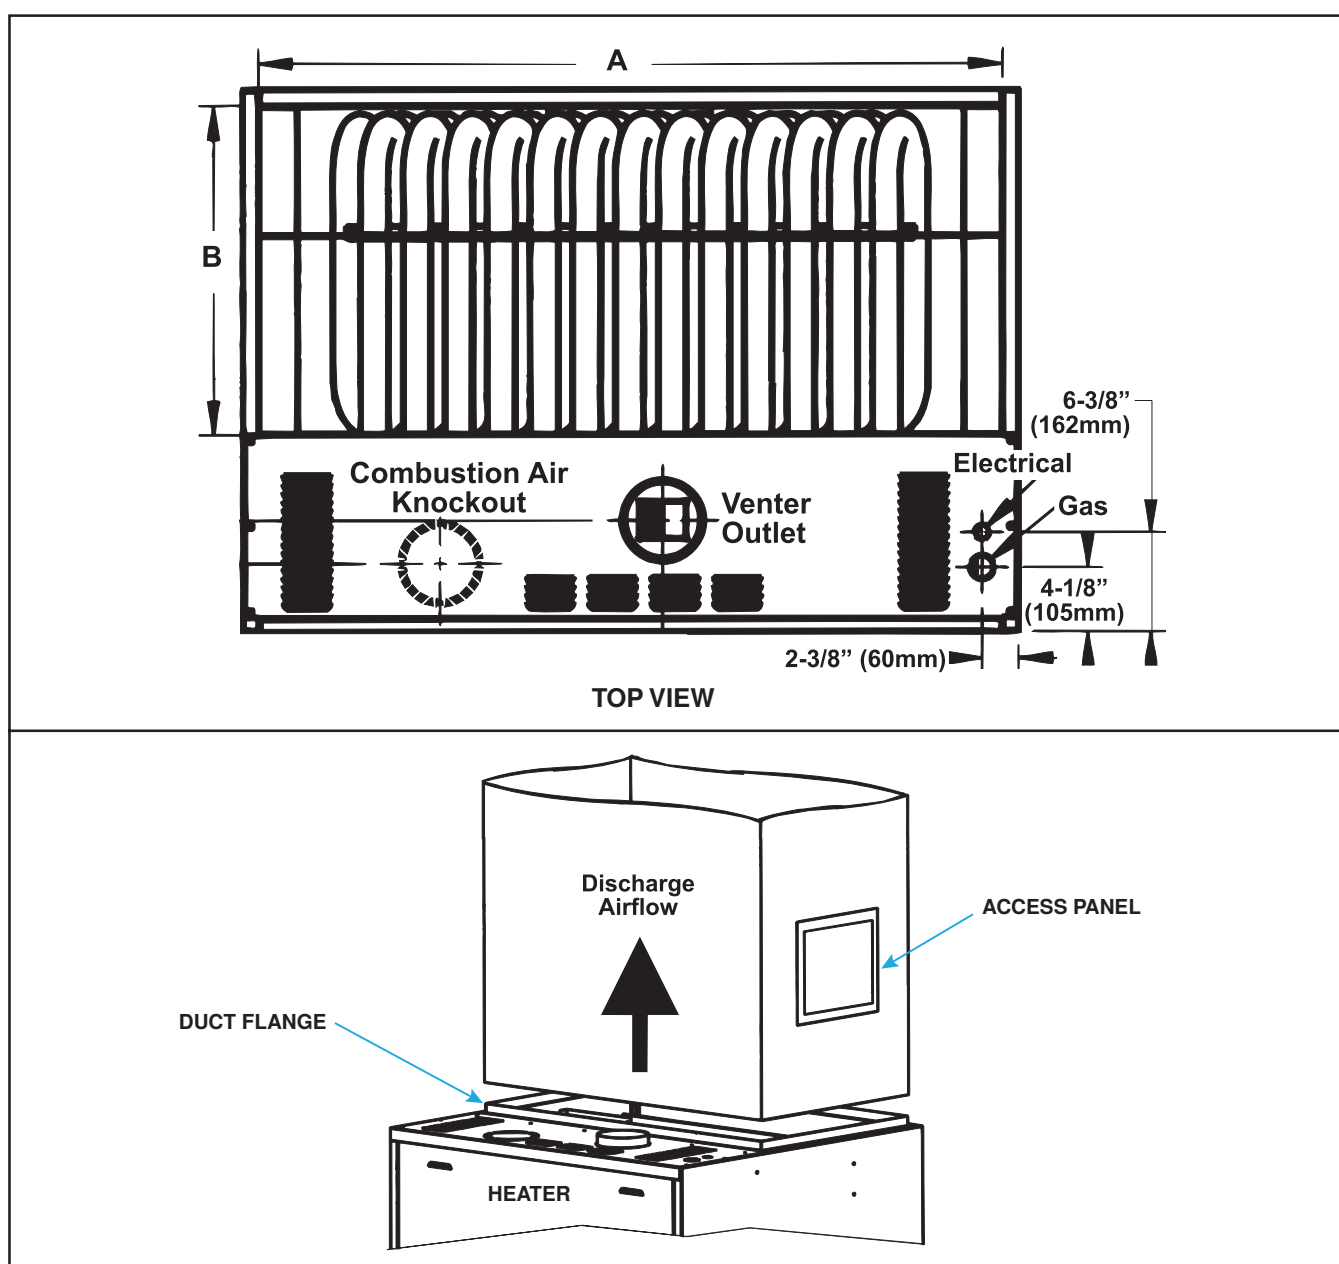

Figure 5. Discharge Duct Connection (Refer to Table 9)
- The discharge duct connects to the top of the heater. Connect the ductwork plenum to the duct flange as shown in Figure 5. The duct connection on the top of the heater has a 90-degree flange. The duct may either have no flange or a 90-degree flange. Position ductwork around the outside of the heater flange. If the ductwork has a flange, drill holes vertically through duct flange into the top of the heater and secure using sheet metal screws. If the ductwork does not have a flange, drill holes horizontally through the ductwork and the heater flange and secure using sheet metal screws.
- **Removable access panel in ductwork** (see Figure 5): Minimum size is 6 inches × 10 inches (152 mm × 254 mm). Panel must be sealed.
Dimension (See Figure 5)	Unit Size (MBTUh)